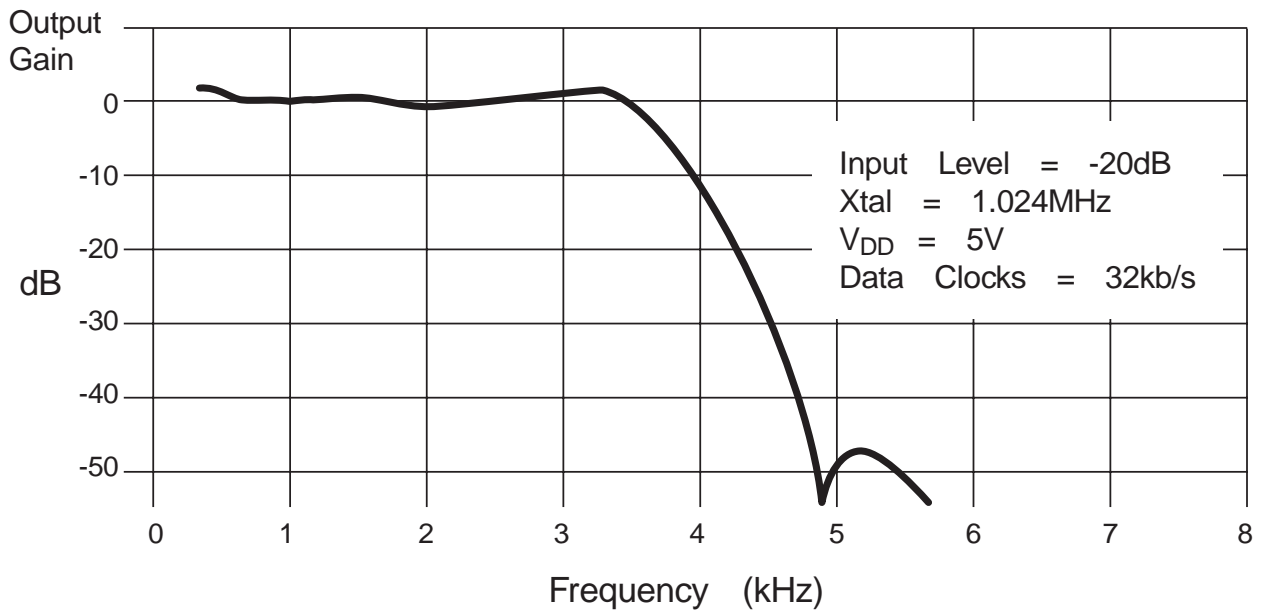

Figure 4: Typical CODEC Frequency Response
5. Relative timings are shown in figure 4